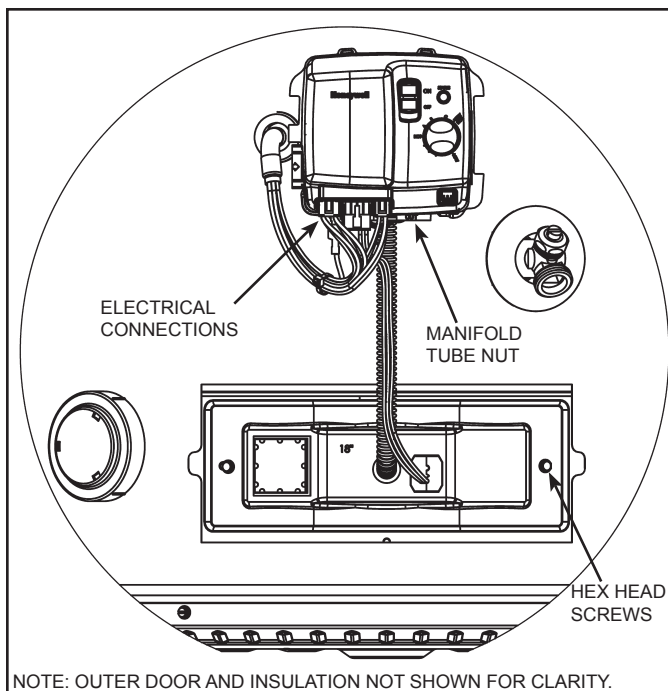

Figure 26. Electrical Connections at the Bottom of the Gas Valve
7. Unplug all the electrical connections from the bottom of the gas control valve/thermostat. See **Figure 26** (page 23).
8. Using a 3/4" open end wrench remove the manifold tube from the gas control valve/thermostat (turning counter-clockwise for natural gas, clockwise for LP). Grasp the manifold tube and push down slightly to free the manifold tube from the gas control valve/thermostat. See **Figure 26** (page 23).
Note: Do Not apply any thread sealant at this connection). To prevent any cross threading the manifold tube should be started by hand (turn clockwise for natural gas, counter-clockwise for LP). Upon tightening with the fingers and confirming it has not been cross threaded, tighten nut with an 3/4" open end wrench. See **Figure 26** (page 23).
7. Reconnect all the electrical connections to the bottom of the gas control valve/thermostat, gently pushing each connector up snapping into place. See **Figure 10** (page 10) and **Figure 26** (page 23).